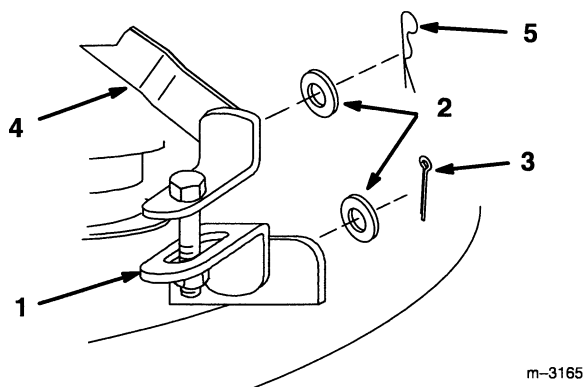

Figure 3
2. Install both front adjustable links to mower bracket with (2) 1/2" washers and (2) 1" cotter pins (Fig. 3).
8. Install both front adjustable links to front lift arms with (2) 1/2" washers and (2) 2-9/16" hairpin coppers (Fig. 3 & 5).